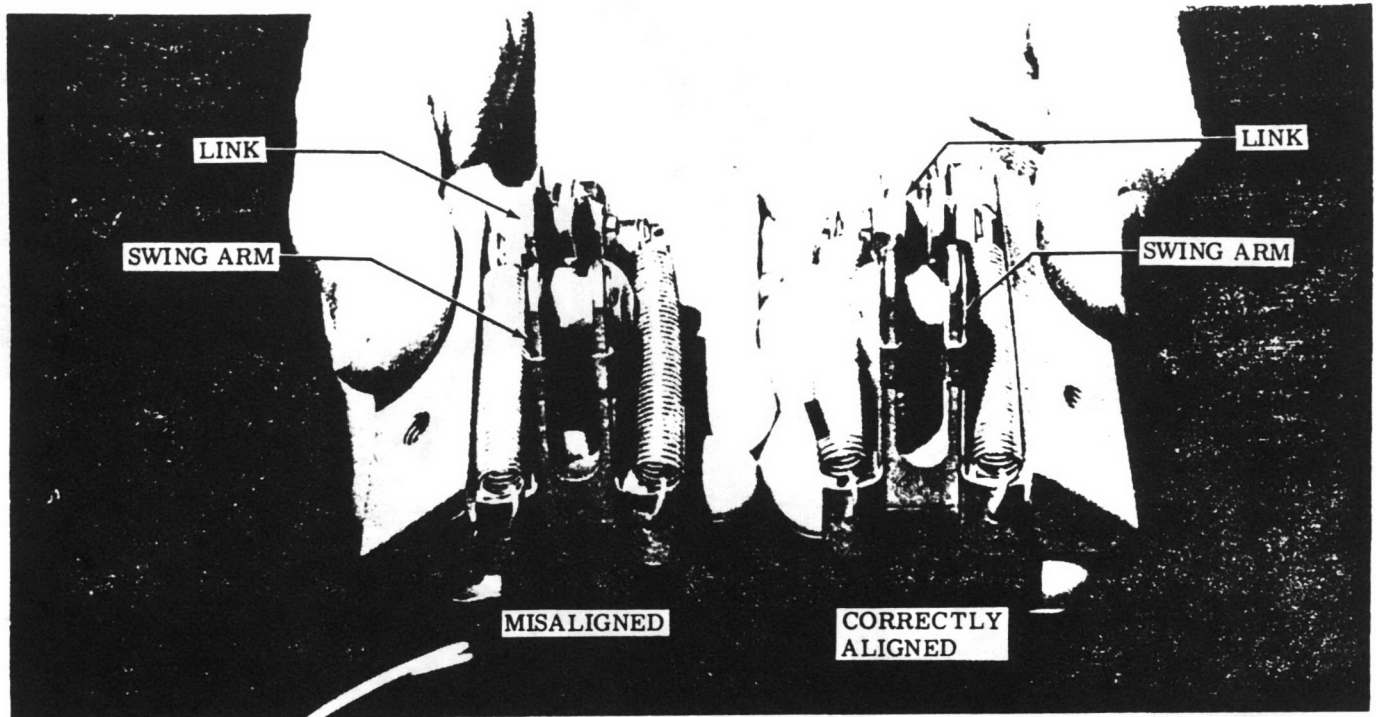

Figure 5-12. Misalignment of Lock Mechanism Components
- 1. Adjust downlocks (8) as follows: Manually trip locks to "locked" position. If binding occurs, check for misalignment of components as illustrated in figure 5-12. Using tool #SE997-3, check for over-center linkage to be .02-inch overcenter (refer to view A-A). When using tool #SE997-3, clearance should be more than .01-inch, but less than .03-inch. After adjustment has been made, apply Loctite Catalog No. 87 to eccentric spacer (16 - Detail D).